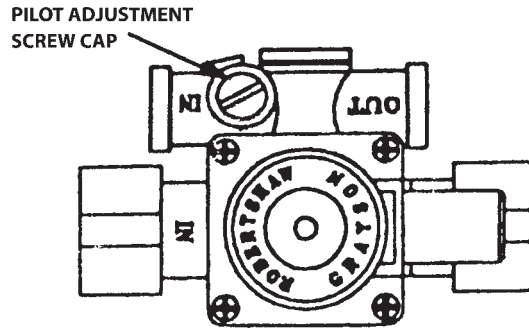

Figure 3
#### TO TURN OFF THE OVEN PILOT: (See Fig. 3)
3. Turn the slotted pilot key to provide the proper size pilot. (See Fig. 3, TS11J Safety Valve or BASO H43A).